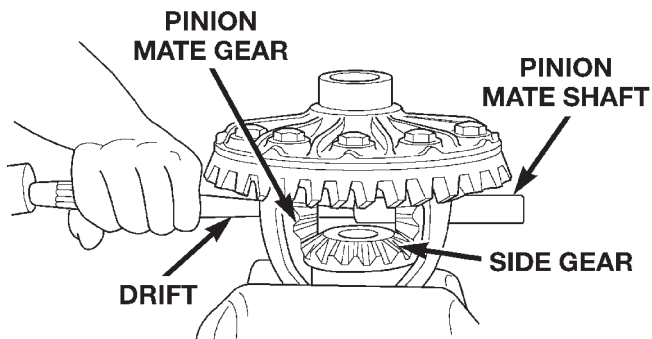

Fig. 44 Mate Shaft Removal
- (5) Remove the pinion gear mate shaft. If necessary, use a drift and hammer (Fig. 44).